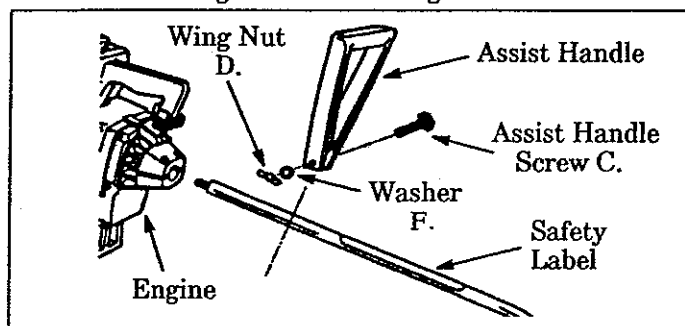

Figure 3
- Align the Assist Handle above the Safety Label and below the Engine. Figure 3.
- Insert the Assist Handle Screw "C." through the screw hole in the Assist Handle. Figure 3.